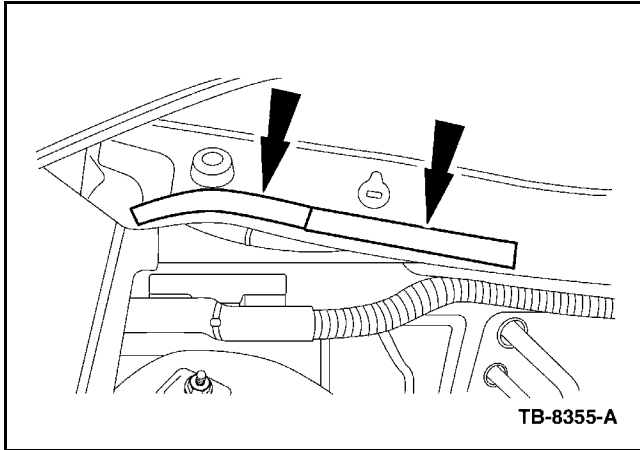

Figure 7 - Article 088-2005-5551
12. Place the other two cut pieces of the PVC soft foam adhesive stripes on the metal body surface over the PCM area. The two ends need to touch, do not allow any gap between the two ends (Figure 7).